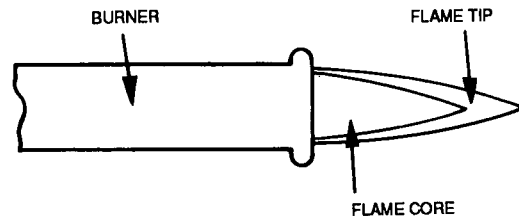

Fig. 6 — Proper Flame Appearance
5. Observe unit heating operation, and watch the burner flame through the observation port to see if it is bright blue. If you observe a suspected malfunction, or that the burner flames are not bright blue, call your dealer. See Fig. 6.